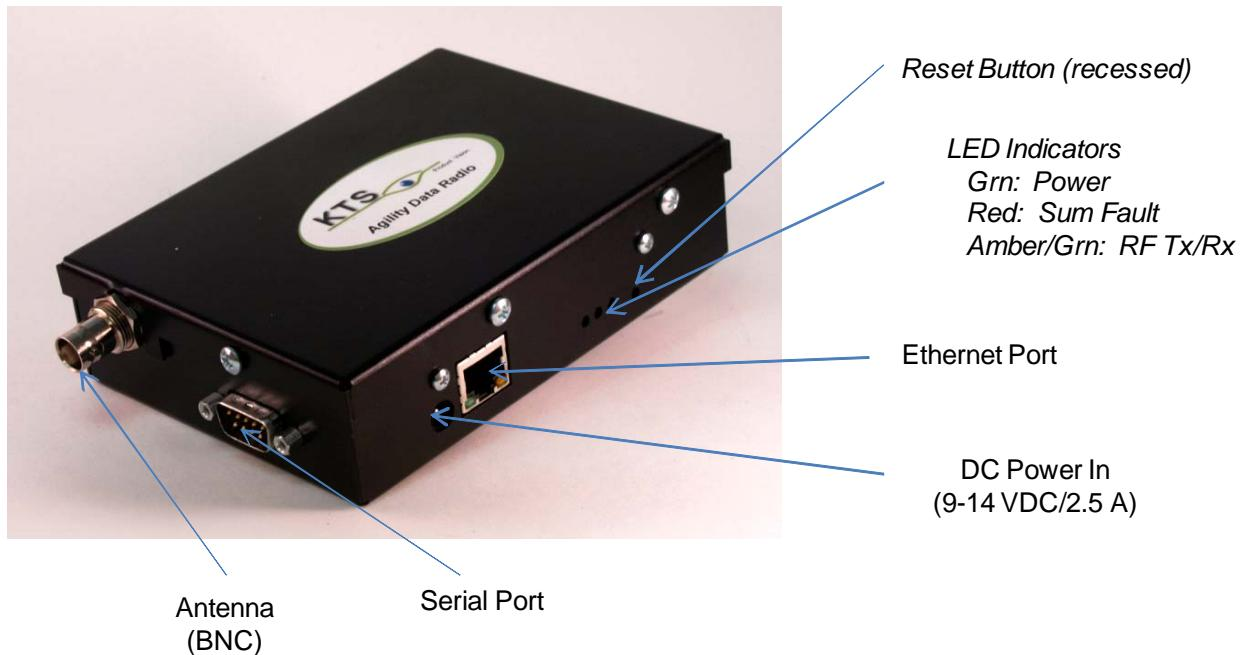
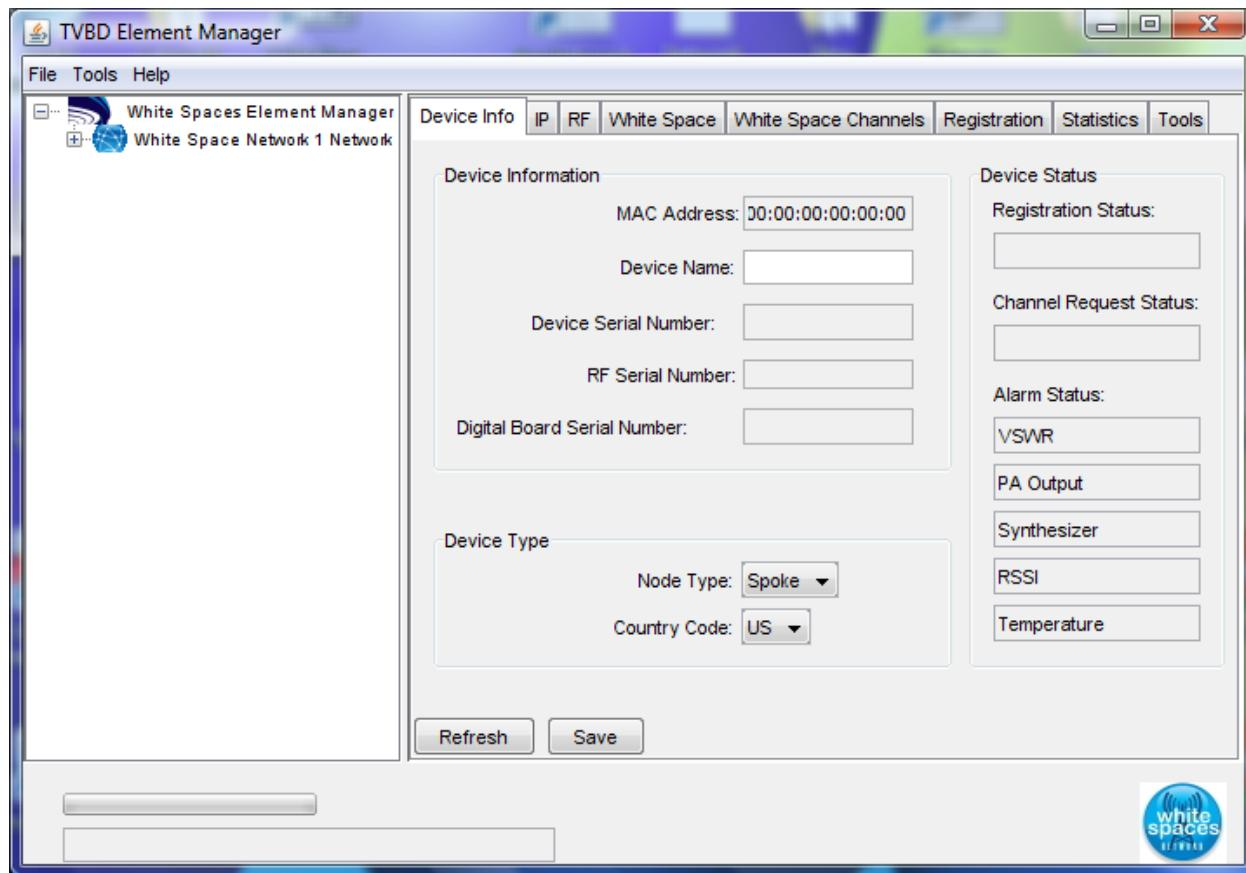

Figure 1: AWR Connections
Figure 3: TVBD EMS Main Screen
3. Locate the power source. The AWR requires a 9-14 VDC input and draws about 1.5 A (when transmitting). Power is supplied via the 2.5 mm connector on the side of the unit (See Figure 1).
6. After the installation process is complete and the EMS application is started, the Device Info screen will appear (See Figure 3, **Section 4.0 of this manual contains the details of using the TVBD Element Management System (EMS)**). Reference Section 4.0 for details on configuring the EMS and resetting AWR IP addresses (i.e., changing from the default value). **The default IP address of the AWR is 192.168.1.4. Note: Pressing and holding the recessed Reset button (See Figure 1) for at least 12 seconds will force the radio back to its default settings.**